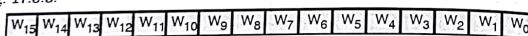

Fig. 17.5.3 : Current word register
(2) Current word register
- In autoinitialization mode, this register is initialized automatically with original count value after EOP signal. The current word register format is as shown in Fig. 17.5.3.